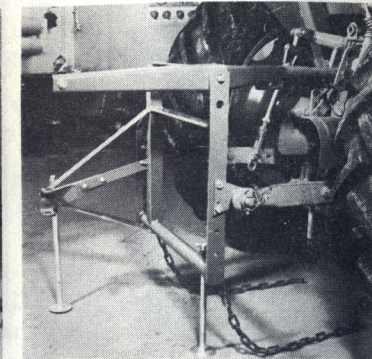

Fig. 6
- Mount the upper link arrangement parallel to the hydraulic arms or slightly upwards towards the tractor, see Fig. 6.